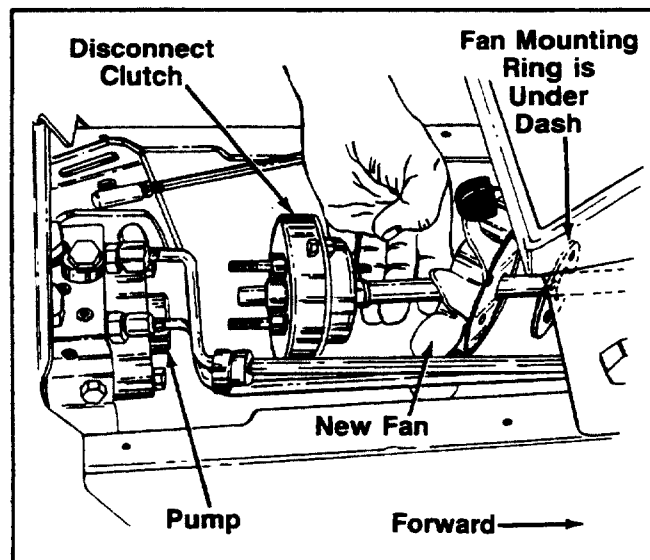

FIGURE 10.
15. Place the new fan, then fan mounting ring on shaft of clutch assembly. See figure 10.